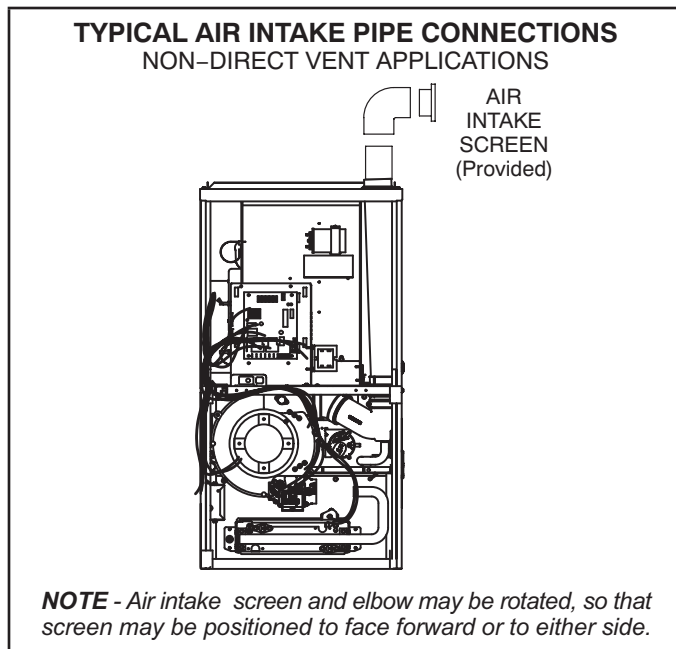

FIGURE 25
- 1 - Use field-provided materials and the factory-provided air intake screen to route the intake piping as shown in figure 25. Maintain a minimum clearance of 3" (76mm) around the air intake opening. The air intake opening (with the protective screen) should always be directed forward, or sideways.